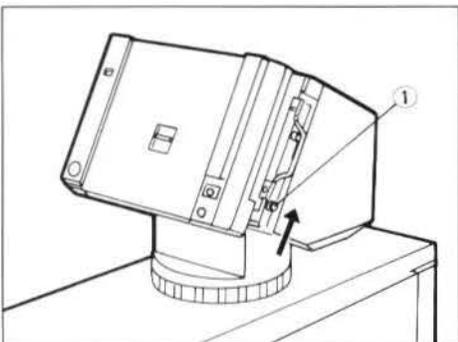

Fig. 15
2. Pull out the clamping latch ① and place the large format camera back on the adapter, then slide the latch to its original position in the direction of ARROW. (Fig. 15)